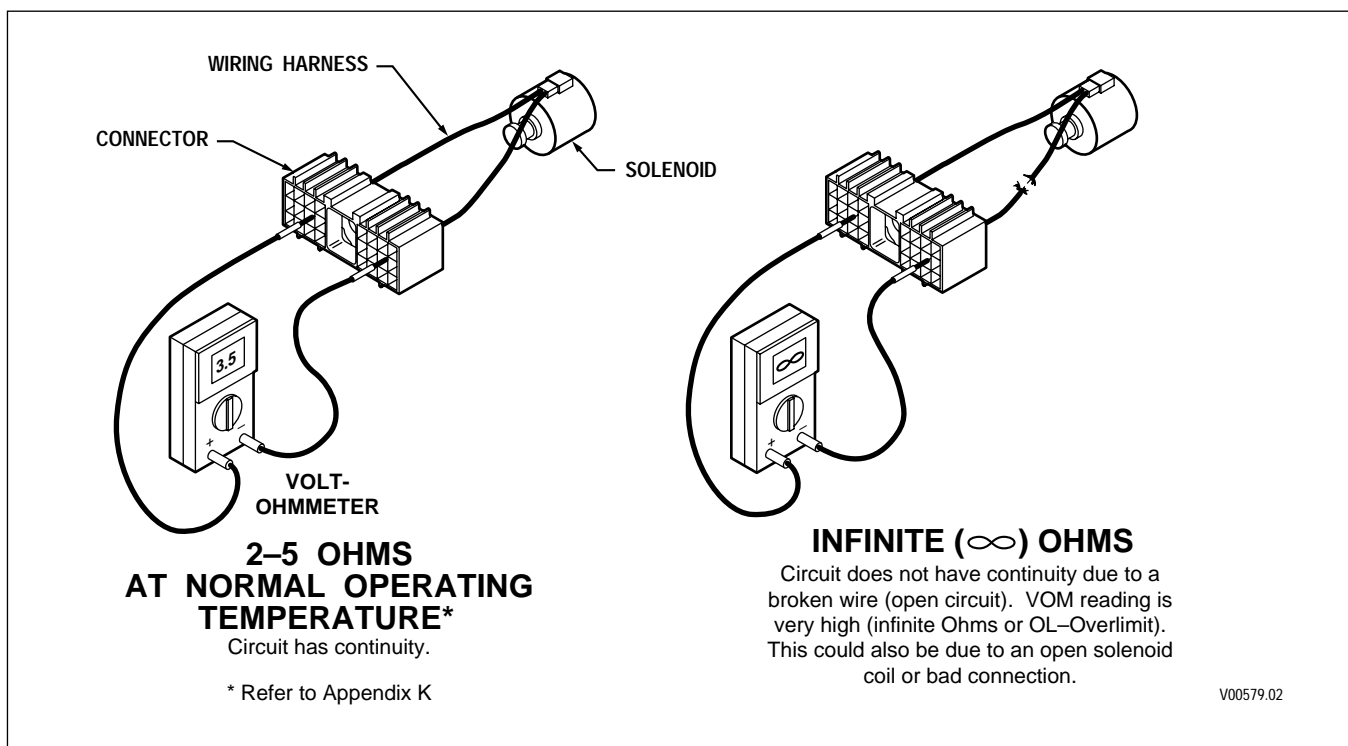

Figure 4-4. Checking Continuity
4. If the transmission being tested is an MD 3000, B 300, or B 400 after S/N 6510015259 or is an HD 4000 or B 500, and if the connectors are clean and connected correctly, determine which wires in the harness to test. Use the diagnostic code system schematic to locate the wire terminals. For this example, Code 41 12, indicates an open or short-to-ground in solenoid "A" circuit — wires 102 and 120 (refer to Figure 4-4).